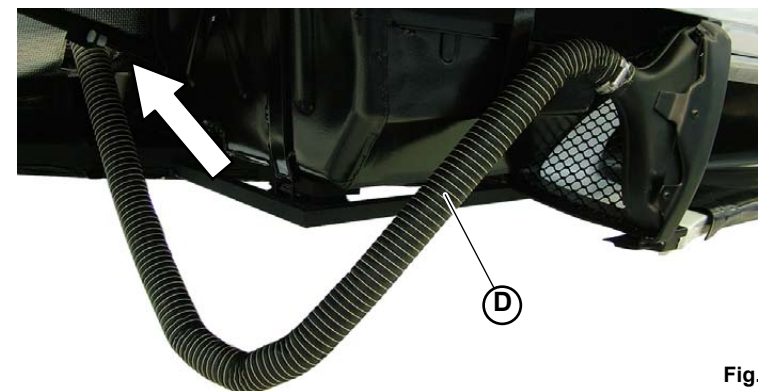

Fig.7
5. Connect the pipe (**D-Fig.7**) onto the air conveyor (by means of the clamp) and insert it into the engine compartment through the provided hole.